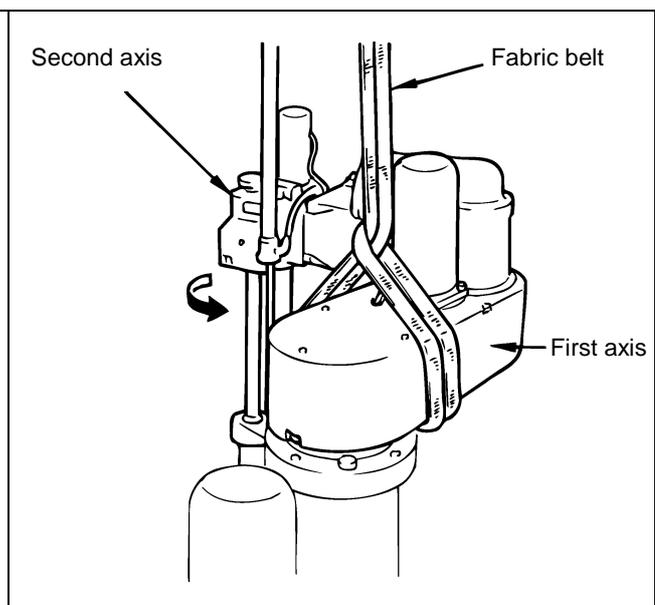

Figure 2-4 Use of Fabric Belt
- (3) Wind and fasten the fabric belt around the root of the 1st-axis arm (see Figure. 2-4).